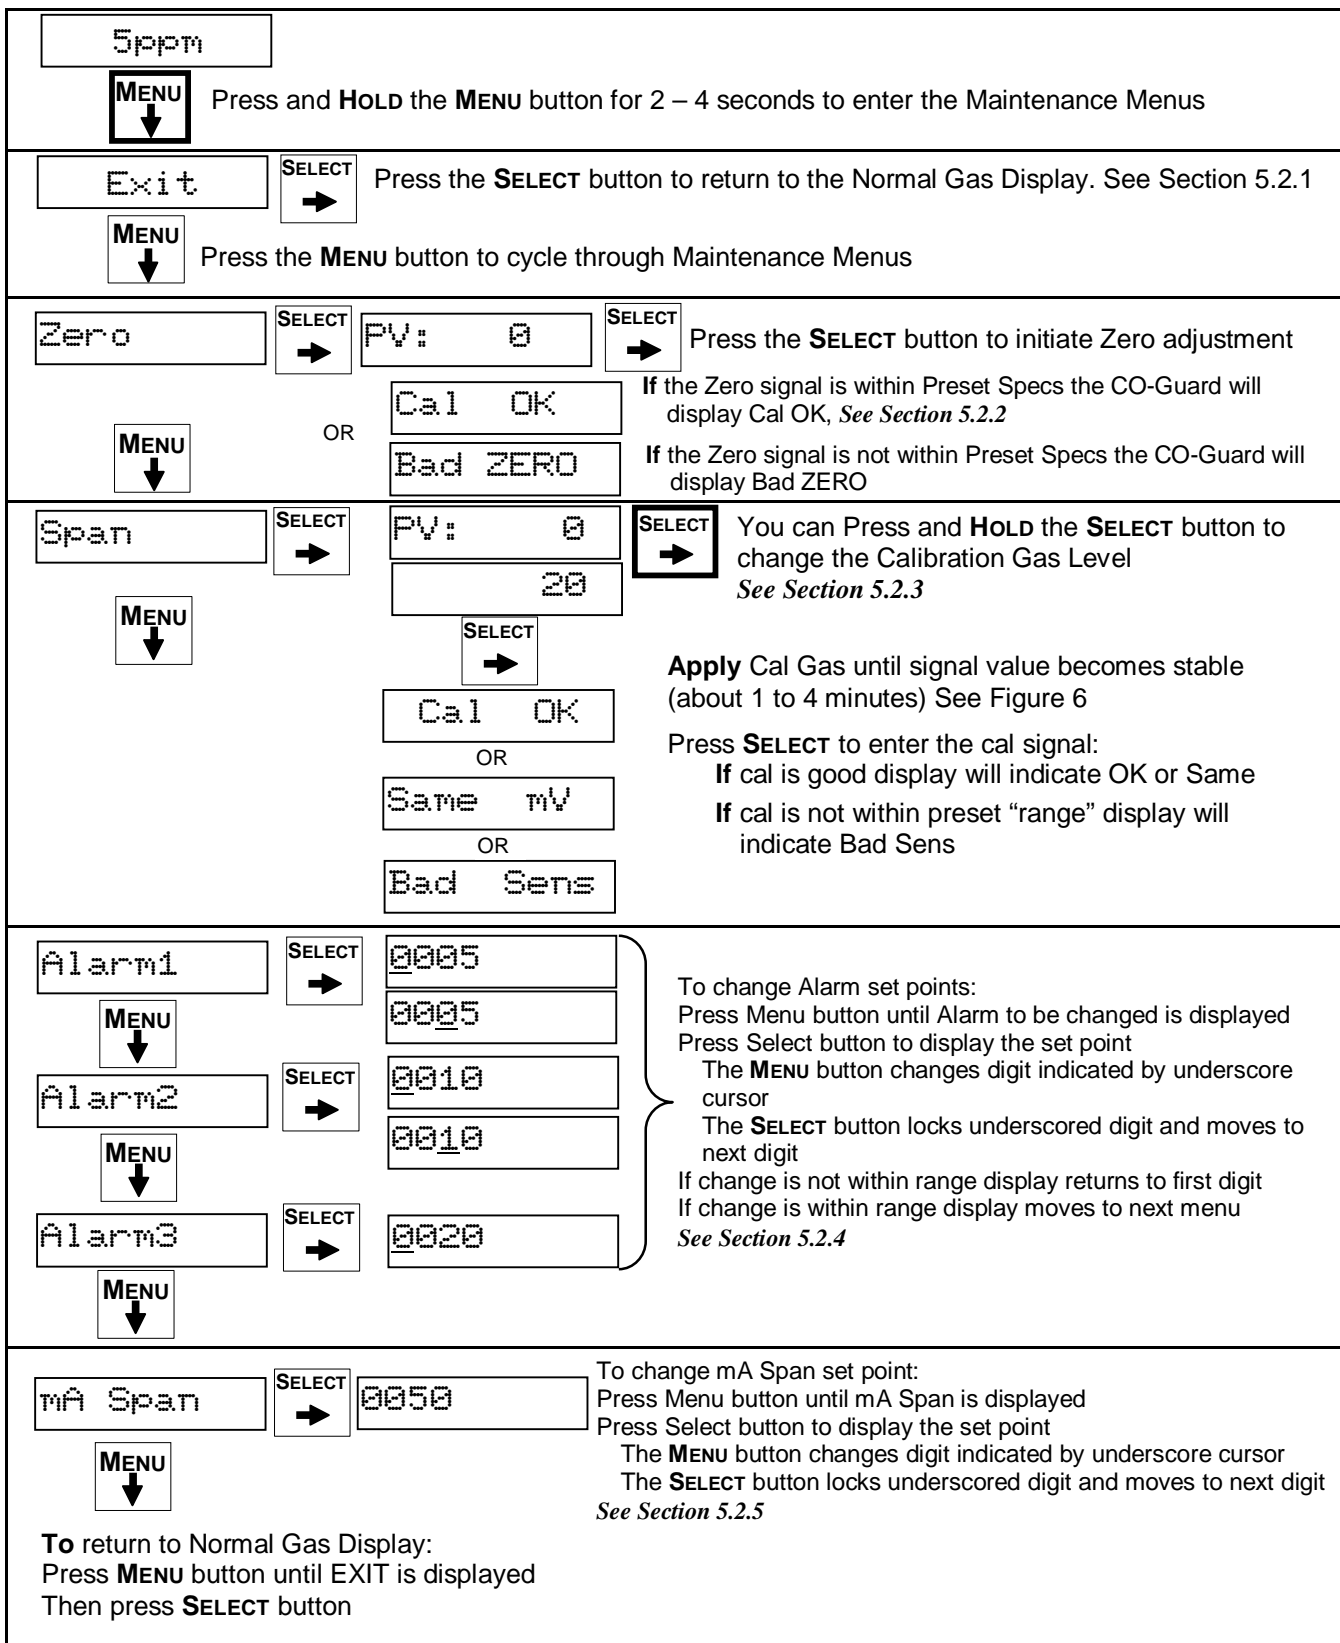

FIGURE 6: CO-GUARD Maintenance Menu Flow Chart
Table 3 indicates the maintenance menu sequence see **Figure 6** for a detailed maintenance menu flow chart.
Enter the maintenance menu by pressing and holding **MENU** button for 2 to 4 seconds. See **Figure 6, CO-GUARD** Maintenance Menu flow chart.
Enter the maintenance menu. See **Figure 6, CO-GUARD Maintenance Menu** flow chart.
3. Attach the associated aerosol gas or calibration gas cylinder to the calibration adapter. See **Figure 6** on calibration adapter.
Enter the maintenance menu as shown in **Figure 6 CO-GUARD Maintenance Menu** flow chart.